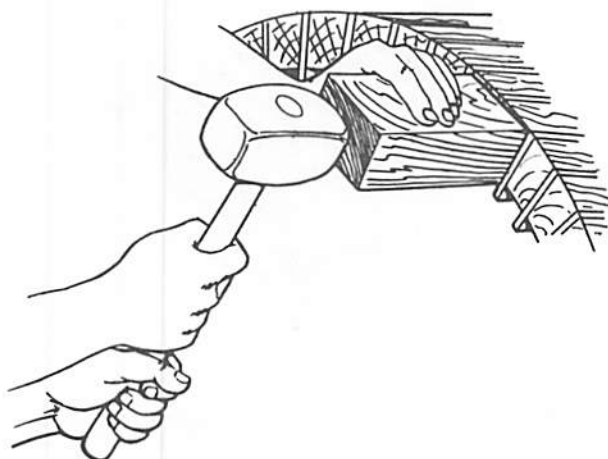

Fig. 3 Driving Filling Against Shoulder In Small End
2. Drive filling into position against shoulder at small end using a hardwood block and rotating hammer blows around large end circumference. Fig. 3.